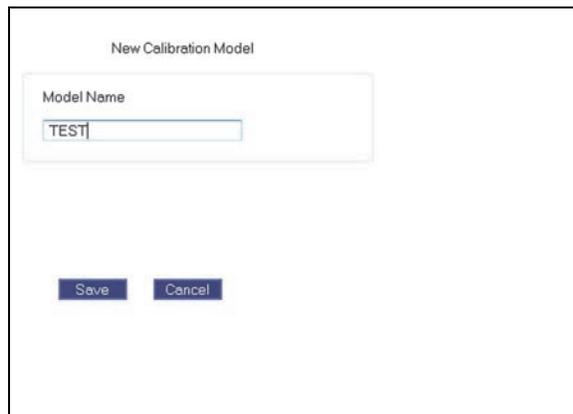

Figure 6-8 The New Calibration Model pane
1. On the **Test Condition** pane, click **New** to display the **New Calibration Model** pane (see Figure 6-8 on page 87).